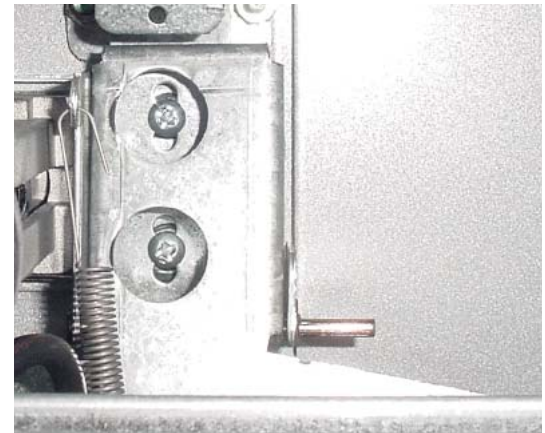

Figure 3
6. Using an 11/32" (8 mm) nut driver, remove the two nuts that secure the coin chute assembly. (Refer to Figure 3.) Remove the coin chute assembly.